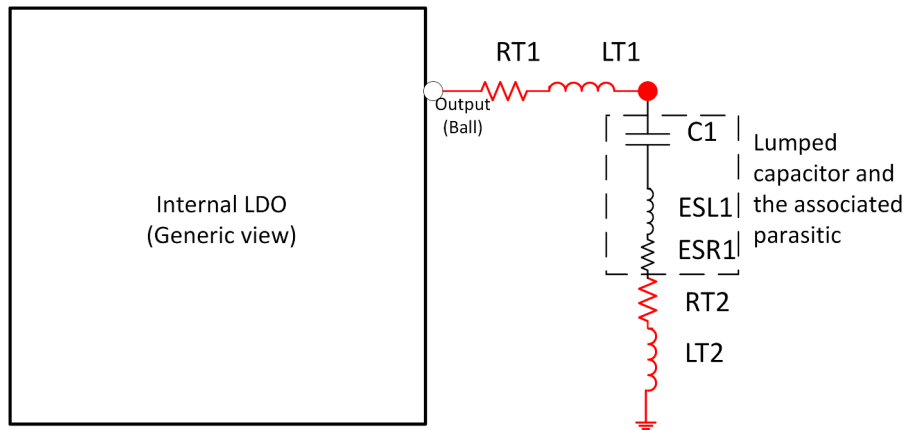

図 7-4. Parasitic offered by different portion of the output path (for one capacitor)
1.2V Digital LDO requires one decoupling capacitor with a typical value of 4.7uF. The parasitic offered by different portion of the output path is illustrated in 図 7-4. “RT1” and “RT2” are parasitic resistances offered by the ball to capacitor lead trace and the ground trace respectively. Similarly, “LT1” and “LT2” are parasitic inductances offered by the ball to capacitor lead trace and the ground trace respectively. “ESL1” and “ESR1” are the effective series inductance and resistance of the decoupling capacitor. 表 7-5 gives the minimum, maximum and typical values of the capacitance and the parasitic.